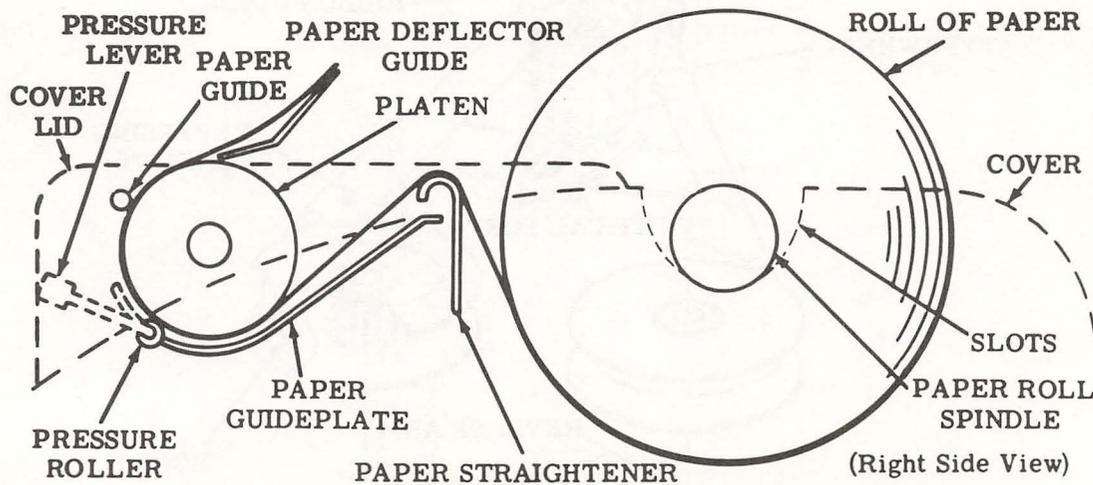

Figure 7 - Paper Threading — Friction Feed
3.11 A friction feed teletypewriter set accommodates a standard roll of paper 8-1/2 inches wide and 5 inches in diameter. Figure 7 illustrates paper threading for a friction feed typing unit.